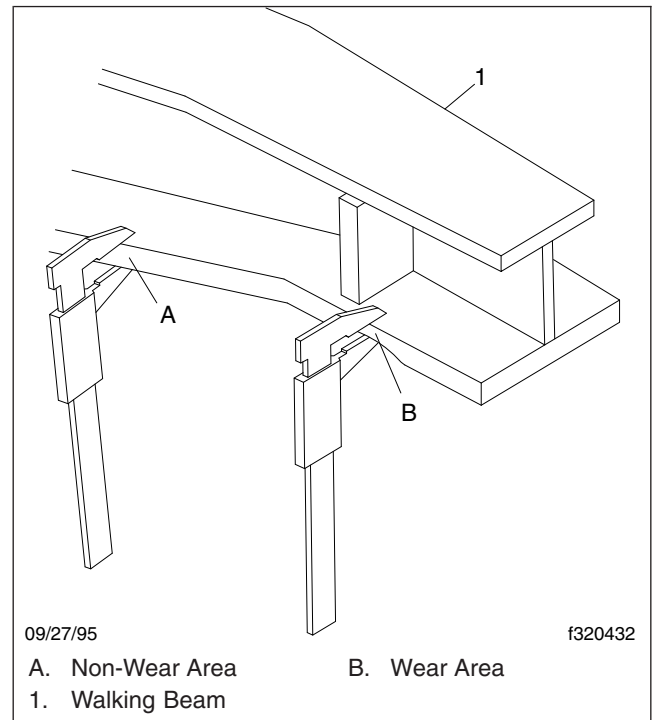

Fig. 8, Walking Beam End Wear Thickness
5. Manipulate the walking beam so that a micrometer, vernier, or dial caliper can be used to determine the wear area thickness on the bottom face. See Fig. 8. Measurements should be taken a minimum of 1/2 inch from the beam flange edges to eliminate any edge wear that may have occurred. Subtract the wear area thickness (see Fig. 8, Ref. B) from the thickness at the non-wear area (see Fig. 8, Ref. A) to determine the amount of wear.